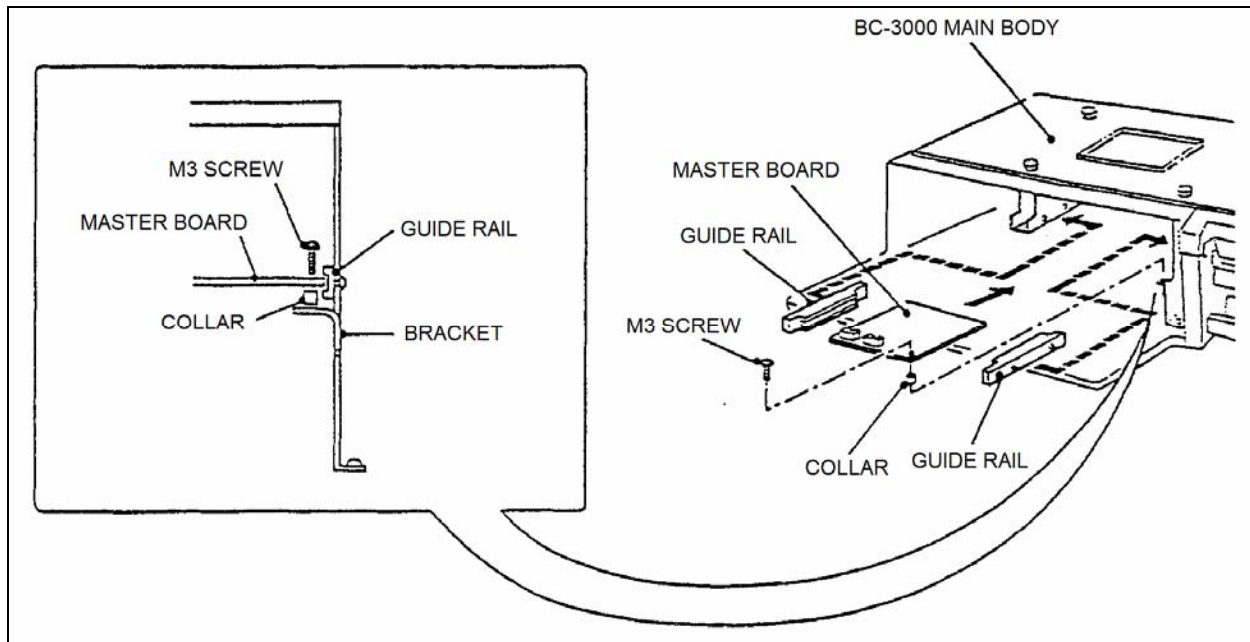

Figure 2. Installation of P-835 Master Board
6. Mount the two rails as shown in Figure 2.